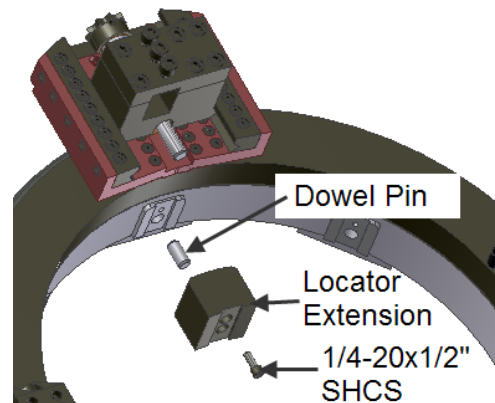

Figure 4
4. Determine pipe OD and select proper locator extensions. If required, bolt the locator extensions to the locator pads (see Fig. 4). The locator pads are adjusted by turning the set screws that are accessed from the outside of the housing with an Allen wrench. Back-up the locator pads as needed for proper clearance of pipe diameter.